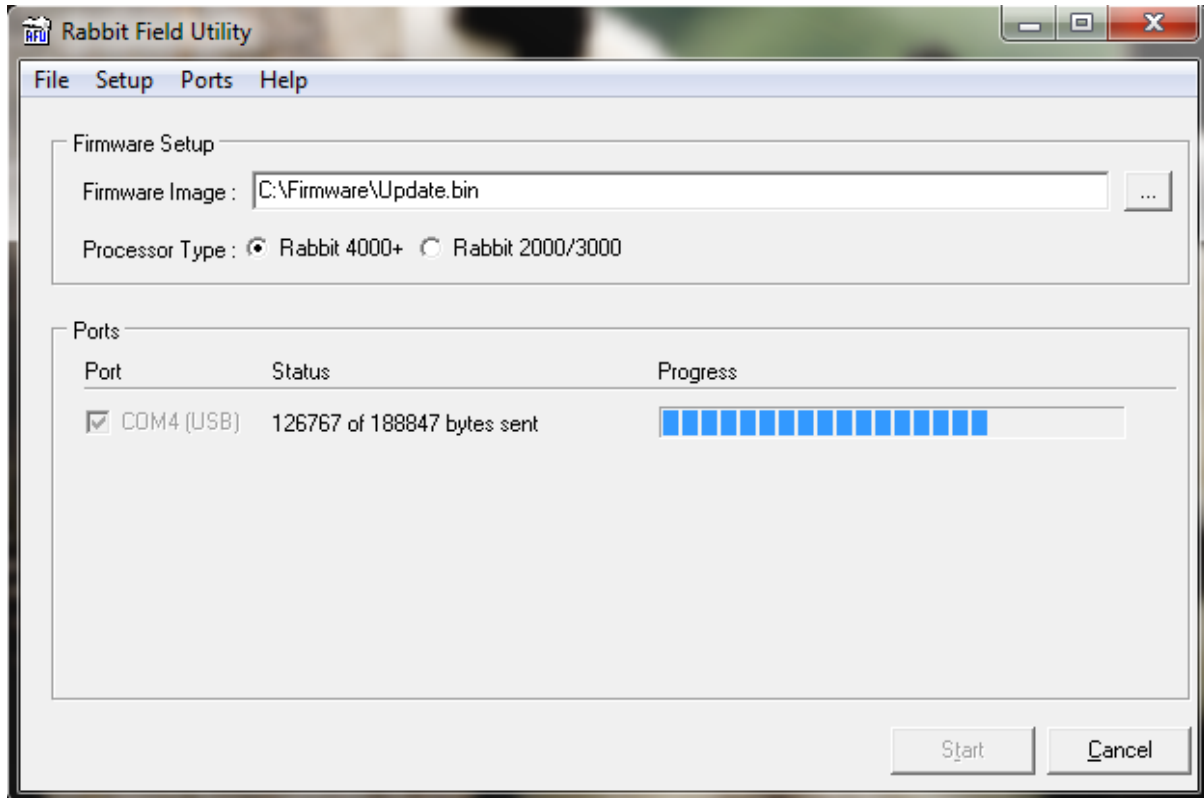

*Fig 20: RFU - Programming AI-500-070*
- Figure 20** RFU - Programming AI-500-070